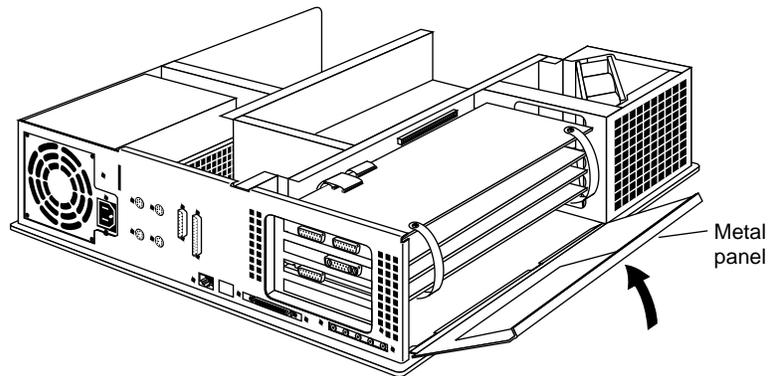

Figure 1-28 Closing the Metal Panel
6. Lift the metal panel and snap it down into place. See Figure 1-28.